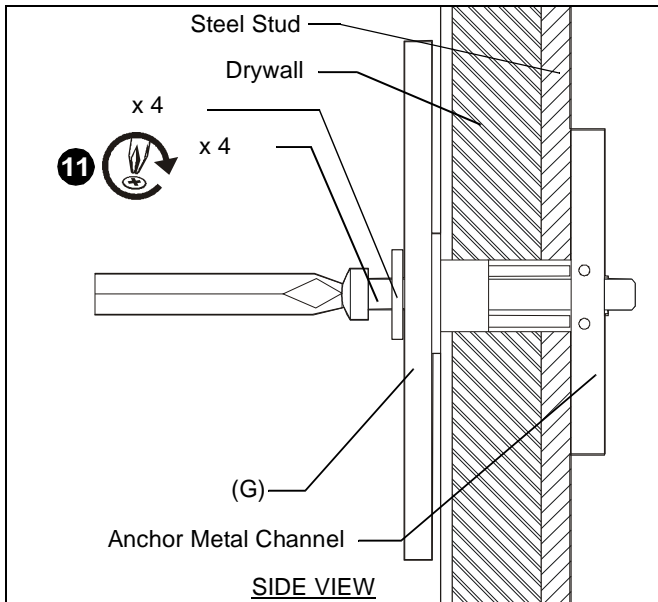

Figure 8
10. Place wall bracket over anchors and align mounting holes in display mount with holes in anchors. (See Figure 8)
11. Insert Grade 2 or better 1/4-20 x 1-3/4" Phillips pan head screws (not included) through Grade 2 or better 1/4" washer (not included), corresponding mounting hole on wall bracket and into Snap-Toggle (not included) and tighten until flush against mount. DO NOT overtighten! (See Figure 8)